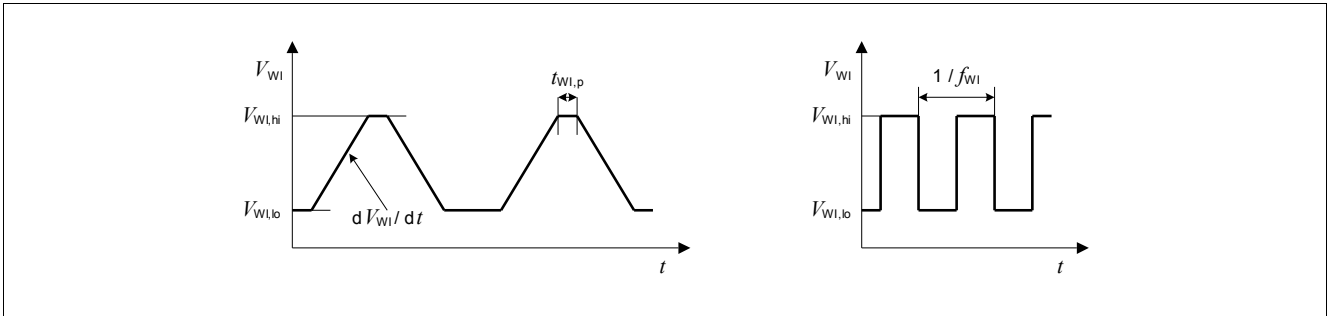

Figure 9 Test Pulses Watchdog Input WI
The watchdog is triggered by a positive edge at the watchdog input “WI”. The signal is filtered by a bandpass filter and therefore its amplitude and slope has to comply with the specification Table “Watchdog Input” on Page 25 to Table “Watchdog Input Signal Slew Rate” on Page 25. For details on the test pulse applied, see Figure 9.
- 3) For details on the test pulse applied, see Figure 9.